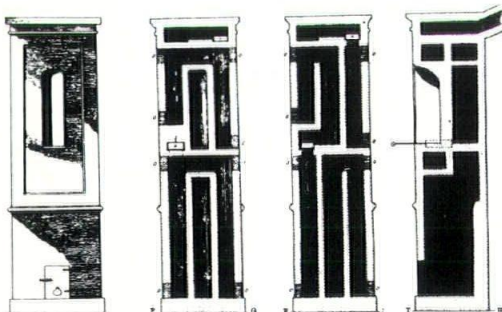
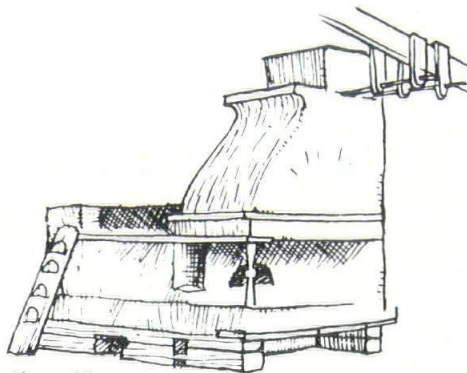

Figure 16
Figure 17
Fireplaces. Some fireplaces actually have the reverse effect intended by removing heat from an interior in creating convection currents up the chimney flue. One improvement is offered by the heat reflecting fireplace designs recorded in the 18th Century by Count Rumford, who observed the importance of a smoke shelf to set up a proper draft within the chimney (13). Another approach to the improved design of wood heating elements is offered by the Scandinavian fireplace/ovens wherein the masonry flue is extended through a labyrinthine distance inside the fireplace mass before connecting to the chimney. The maximum amount of heat is thereby retained by the firebricks which then radiate to the interior. Controlled by doors over the firebox to regulate the air flow to the fire, one fire is generally all that is required for a twenty-four hour period. Figure 16 shows ceramic ovens from a 1775 manuscript by architect Carl John Cronstedt and General Fabian Wrede of Sweden (14). Figure 17 is a traditional design from Finland which features a "grandmother's shelf" for sleeping (15).